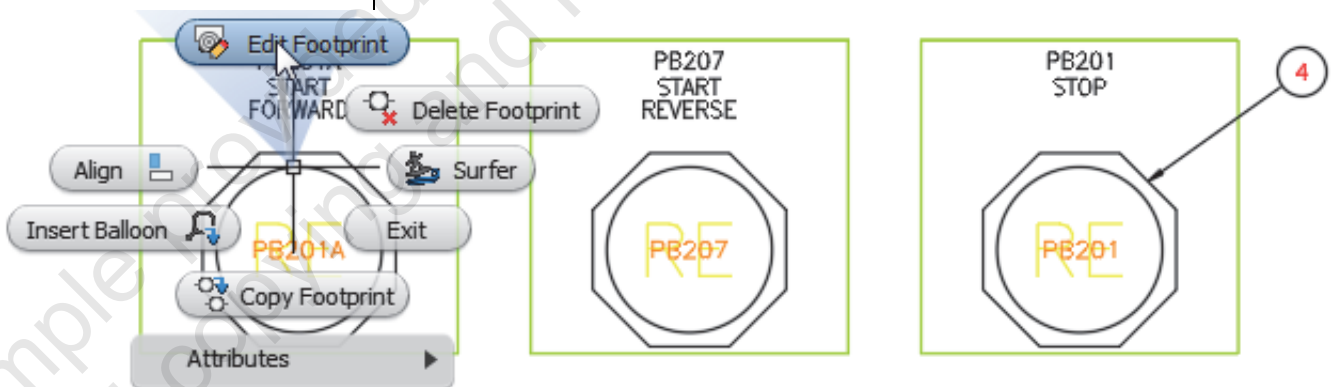

Figure 1–19
14. The Panel Layout – Component Insert/Edit dialog box opens, as shown in Figure 1–20. The panel footprint symbol represents the push button that was edited in the schematic drawing.